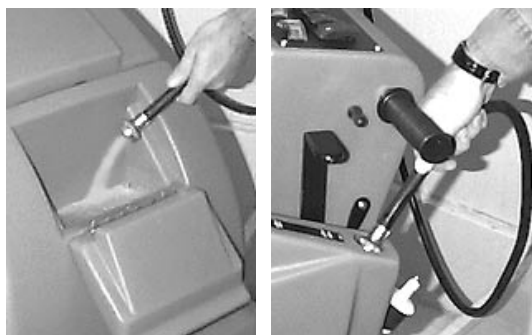

FIG. 9
- The solution tank is equipped with front and rear filling ports for your convenience (Figure 9). Fill solution tank with 64L (17 gal) of clean water, 60°C (140°F) maximum temperature. The clear tube below the rear fill port indicates the amount of water in solution tank.